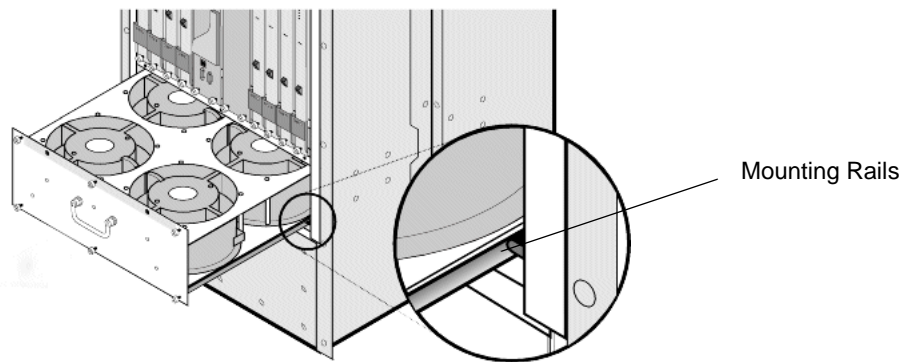

Figure 17-5. TMX 880 MPLS Core Switch Fan Tray
1. Align the fan tray with its designated bay and insert it into the bay as shown in **Figure 17-5**.